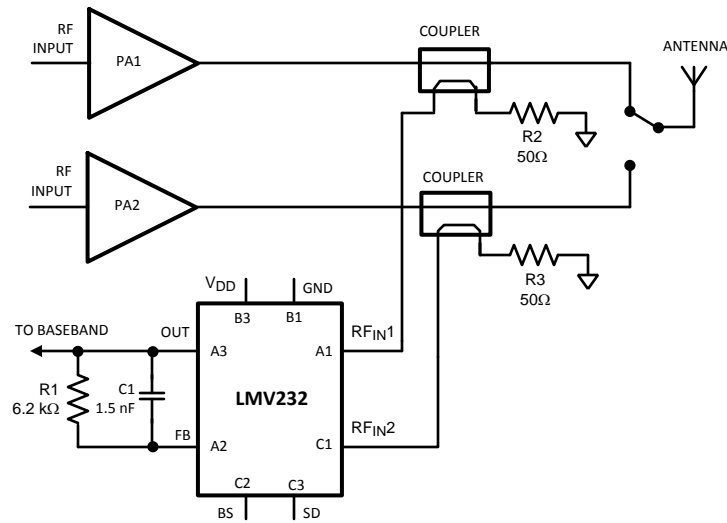

Figure 21. Typical Application
The LMV232 is especially suited for CDMA and WCDMA applications with 2 Power Amplifiers (PA's). A typical setup is given in Figure 21. The output power of one PA is measured at a time, depending on the bandselect pin (BS). If the BS = High RF_{IN1} is used for measurements, if BS = Low RF_{IN2} is used. The measured output voltage of the LMV232 is read by the ADC of the baseband chip and the gain of the PA is adjusted if necessary. With an input impedance of 50Ω, the LMV232 can be directly connected to a 20 dB directional coupler without the need for an additional external attenuator. The setup can be adjusted to various PA output ranges by selection of a directional coupler or insertion of an additional (resistive) attenuator between the coupler outputs and the LMV232 RF inputs.
These three sections are leading back to three error mechanisms. At higher power levels the detector output starts to saturate because the output voltage approaches the maximum signal swing that the detector can handle. The maximum output voltage of the device thus limits the upper end of the detection range. Also the maximum allowed ADC voltage of the baseband chip can limit the detection range at higher power levels. By adjusting the feedback resistor R_{FB} of Figure 21 the upper end of the range can be shifted. This is valid until the detector cell inside the LMV232 is the limiting factor.
The calibration measurement procedure can be explained with the aid of Figure 21, which depicts a typical power measurement setup using the LMV232. In normal operation, the two PA's in the setup will never be active at the same time. One PA will produce the required transmit power, while the other one is off, (disabled) and produces no power. The pedestal voltage should be measured in the absence of RF power. This can be achieved by switching the Band Select (BS) pin such that the LMV232 input is selected where the disabled PA is connected to. The pedestal voltage at no input power can be read at the output pin.